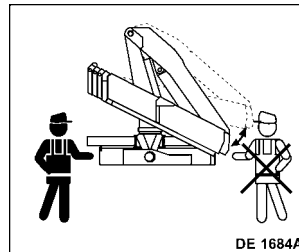

fig. 34a
- Fold the inner boom to its stroke end (lever **G**); the rest locating pin lines up with its seat (fig. 34a).